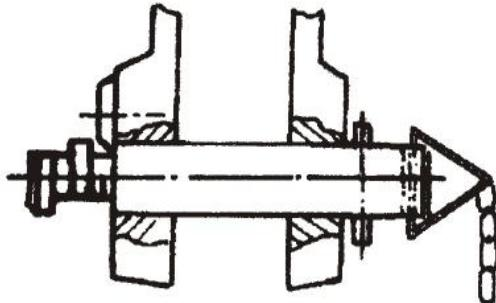

Fig2. Turn and push the fixed axis twice and let it enter the second tunnel
2. Anchor: Fixed axis is to be used to anchor the rope round the hoister. Connect the wire rope or the hanger with the fixed rope and tie the other end to the load, masts, etc. There is a relaxation proofing tunnel on the fixed axis. When the fixed axis is inserted the hoister case , is must be turned twice to the second tunnel till it is clamped tightly (Fig2).